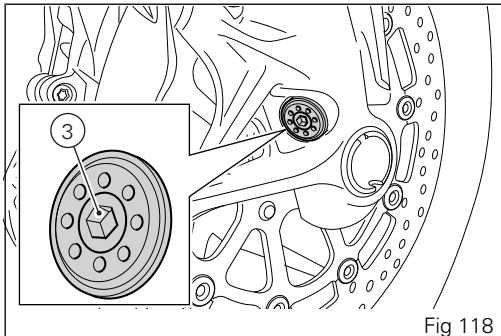

Fig 118
- 3) to adjust the preload of the inner springs (3, Fig 118);
To change preload of the spring inside each fork leg, turn the hex. adjuster(3, Fig 118) with a hex wrench, starting from the fully open (clockwise) position.